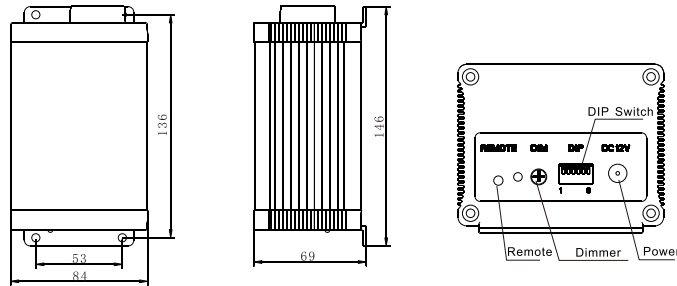

Fig. 1
1. Installing size and rear panel of LLE-003 (see fig. 1):